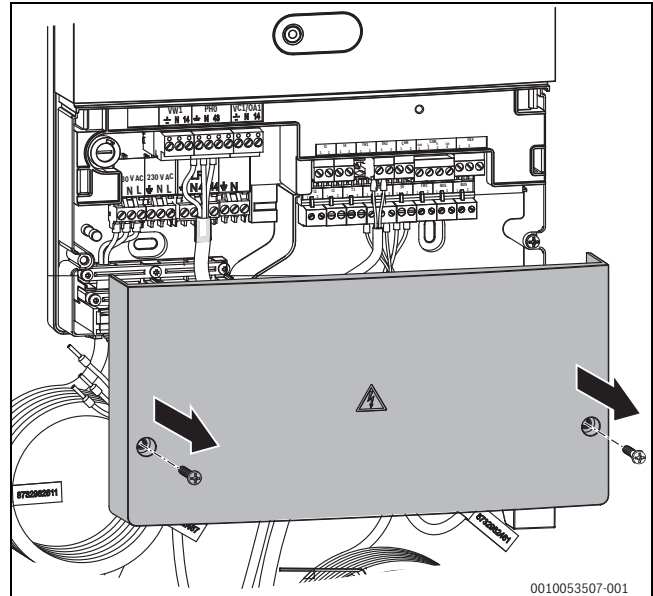

Fig. 28 Remove the cover of the hybrid manager
- ▶ Remove two screws in the cover of the hybrid module and take off the cover (→Fig. 28).